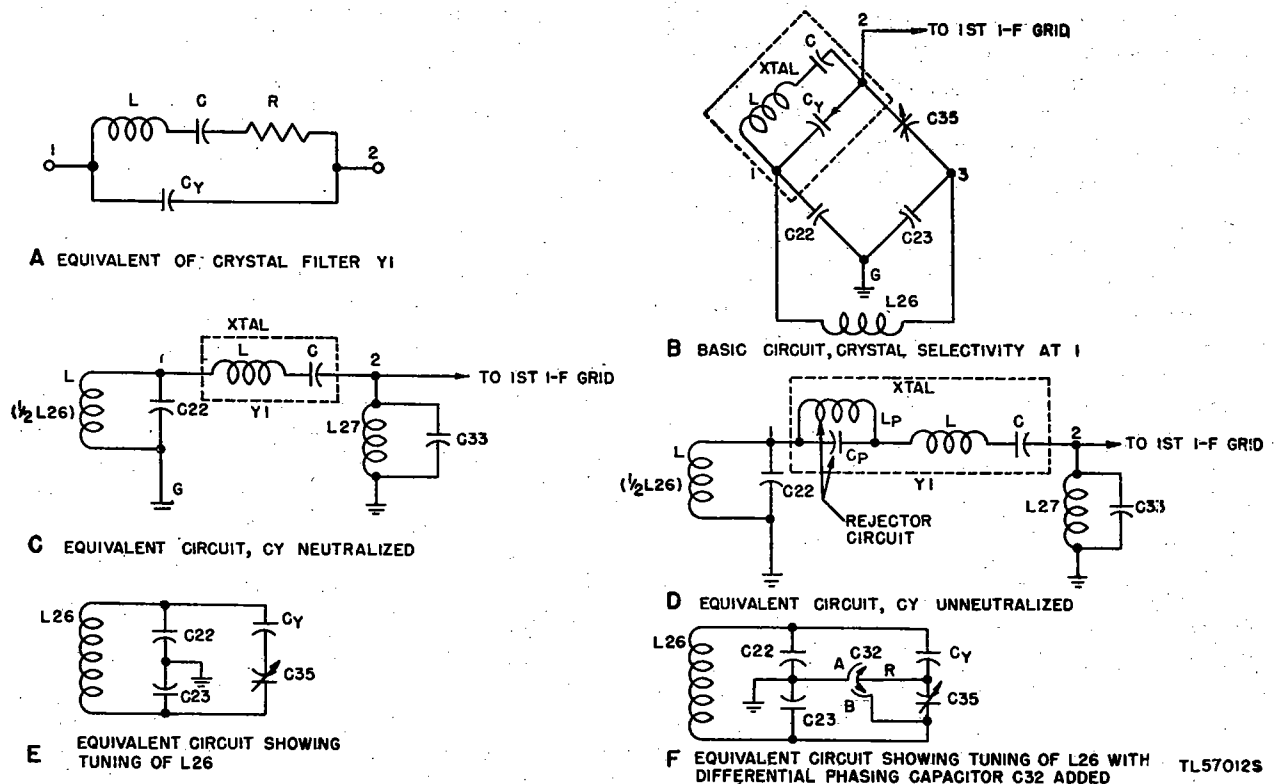

Figure 28. Radio Receiver BC-779-B, functional and equivalent diagrams of crystal filter circuit.
(4) Refer to appendix III for circuit details of Improvement Kit MC-531.
61. Crystal Filter (fig. 28)
a. EQUIVALENT CRYSTAL CIRCUIT. The equivalent electrical circuit of a crystal is shown in "A," figure 28. The circuit, and hence the crystal, are resonant at two frequencies: The frequency at which the reactance of L is equal to the reactance of C (series resonance), and the frequency at which the effective reactance of L-C (in series) is *inductive* and *equal* to the capacitive reactance of C_X (parallel resonance). At the series-resonant frequency the crystal acts as a low-impedance connection between 1 and 2. At the parallel-resonant frequency the crystal acts as a high impedance between 1 and 2.
b. BASIC FILTER CIRCUIT ("B," fig. 28). Capacitors C22 and C23 (100 mmF each) are connected in series across the secondary of i-f input transformer L26, and their junction is grounded to provide a midpoint connection in the resonant circuit L26-C22-C23. Consequently, the capacitor voltages are always of equal amplitude but 180° out of phase. Phasing capacitor C35 (1.5 to 5 mmF) is connected between 3 and 2, and the crystal is connected between 1 and 2.
c. NEUTRALIZATION OF C_X . Capacitors C22, C23, C35, and C_X (the capacity between the crystal holder plates) form a capacity bridge; the input is applied to 1 and 3, the output is taken from 2 and G. When capacitor C35 is adjusted so that its capacitance is equal to that of C_X , the voltage coupled from 3 through C35 to 2 is equal and opposite to the voltage coupled from 1 through C_X to 2. Under this condition C_X is neutralized and the crystal acts as a series-resonant circuit only ("C," fig. 28). Since the crystal is resonant at the intermediate frequency, there is (in effect) a direct connection between 1 and 2. As indicated in "C," figure 28, only the voltage across C22 (one-half the secondary voltage) is applied through the crystal to the grid circuit of the first i-f stage.
tance of $L-C$ and the capacitive reactance of C_Y . For simplicity the parallel-resonant circuit is denoted as rejector circuit $L_P C_P$ in "D," figure 28. L_P and C_P denote the effective inductance and capacitance at the parallel-resonant frequency. L and C indicate the effective inductance and capacitance of the crystal at the series-resonant frequency, in this case the 465-kc i.f. In other words, unless C_Y is neutralized, the crystal acts simultaneously as a parallel- and series-resonant circuit. The parallel-resonant circuit $L_P C_P$ has no effect on the 465-kc i.f. but presents a high impedance to, and therefore rejects, the frequency to which $L_P C_P$ is resonant. L and C present extremely low impedance to the 465-kc i-f signal voltage and high impedance to voltages at different frequencies. *With underneutralization the resonant frequency of $L_P C_P$ is higher than 465 kc.*
f. **CAPACITOR C32.** Capacitor $C35$, in series with capacitance C_Y , is across $L26$ and affects its tuning ("E," fig. 28). To avoid the detuning effect and to enable shifting the rejection frequency to either side of the i.f., differential PHASING capacitor $C32$ ("F," fig. 28) is used in the radio receiver. Stator sections A and B are so arranged that, as rotor R is turned out of one stator into the other, the capacitance of the first decreases by the same amount that the capacitance of the second increases. Thus, whether the rotor is entirely engaged in stator A, is at a midpoint, or is entirely in stator B, the effective capacitance across A-B, and therefore across $L26$, remains constant. Assume that $C32$, the PHASING capacitor, is set at the arrow position of the PHASING control on the front panel and
(2) **CRYSTAL SELECTIVITY switch at 1.** When CRYSTAL SELECTIVITY switch SW7 is placed at 1, the short is removed from the crystal. If the secondary of L26 and the parallel-resonant grid circuit, L27-C33, are tuned to 465 kc, each is the equivalent of a high resistance in series with the equivalent series-resonant circuit of the crystal ("C," fig. 28). Consequently, the Q and therefore the selectivity of the series-resonant (crystal) filter circuit is reduced, and the bandwidth is several kilocycles wider than that of the crystal alone.